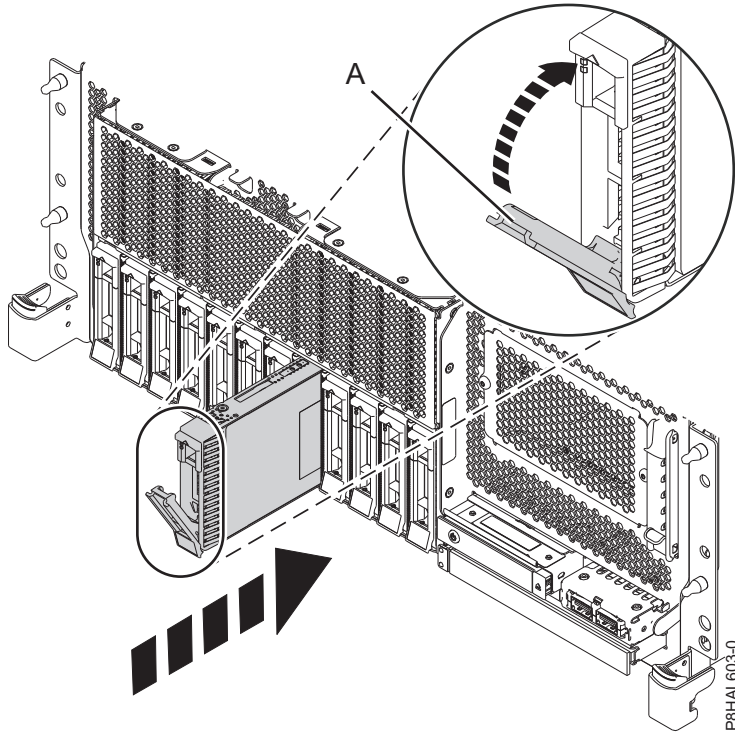

Figure 21. Installing a disk drive in a rack-mounted base function system
4. Unlock the drive bay handle (A) by pressing it and pulling it out toward you. If the handle is not all the way out, the drive does not slide into the system. See Figure 21 on page 28, Figure 22 on page 28, Figure 23 on page 29, and Figure 24 on page 30.